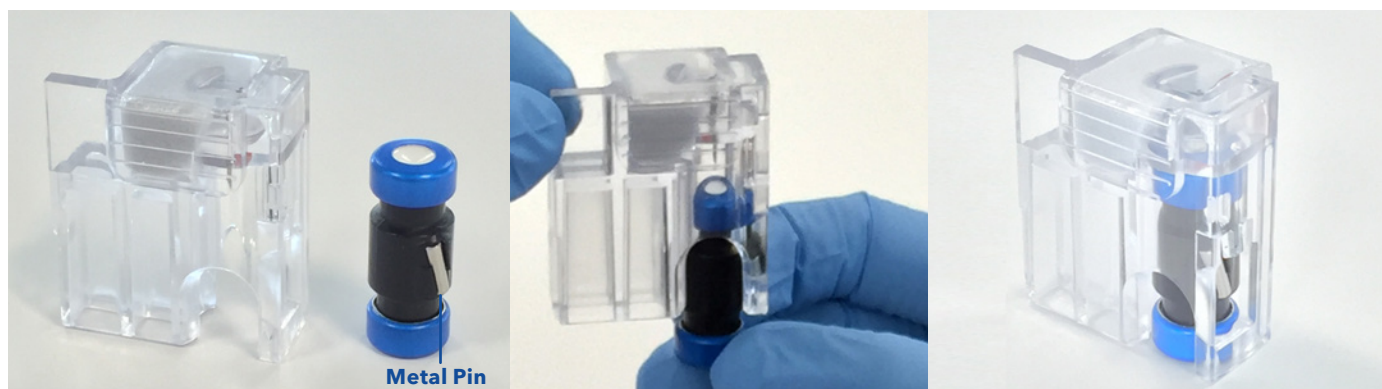

FIGURE 7. Assembling the Top Running Buffer vial in the cartridge insert. Keep the cartridge insert in an upright position after the vial is inside it.
3. Fetch a fresh vial of Top Running Buffer from $2\text{--}8\text{ }^{\circ}\text{C}$ storage and slide the Top Running Buffer vial into the cartridge insert so that the metal pin on the side of the vial is facing out. Press the vial up until it is completely inside the cartridge insert (see FIGURE 7).